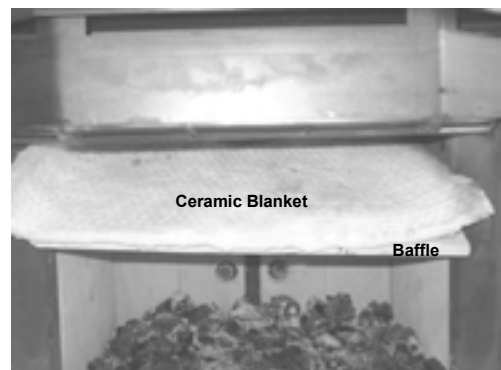

Figure 32.4
5. Slide fiber board baffle forward to front of stove and straight out through door. **Figure 32.4**